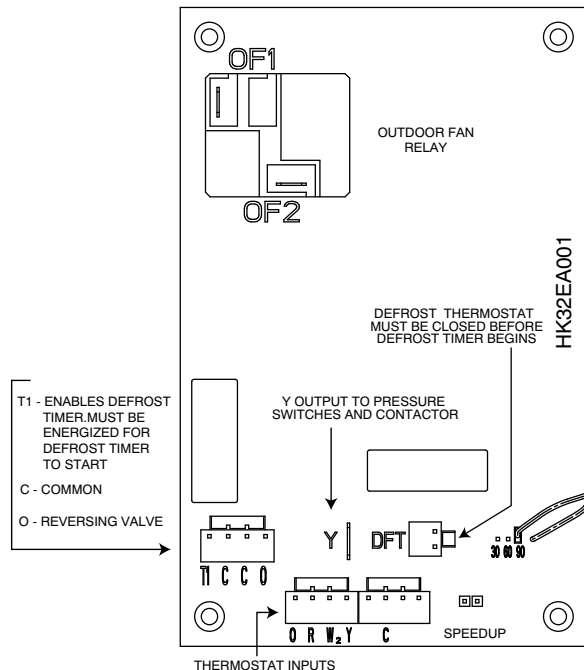

Fig. 11 - Defrost Control
2. Disconnect outdoor fan motor lead from OF2 on control board (see Fig. 11). Tape lead to prevent grounding.